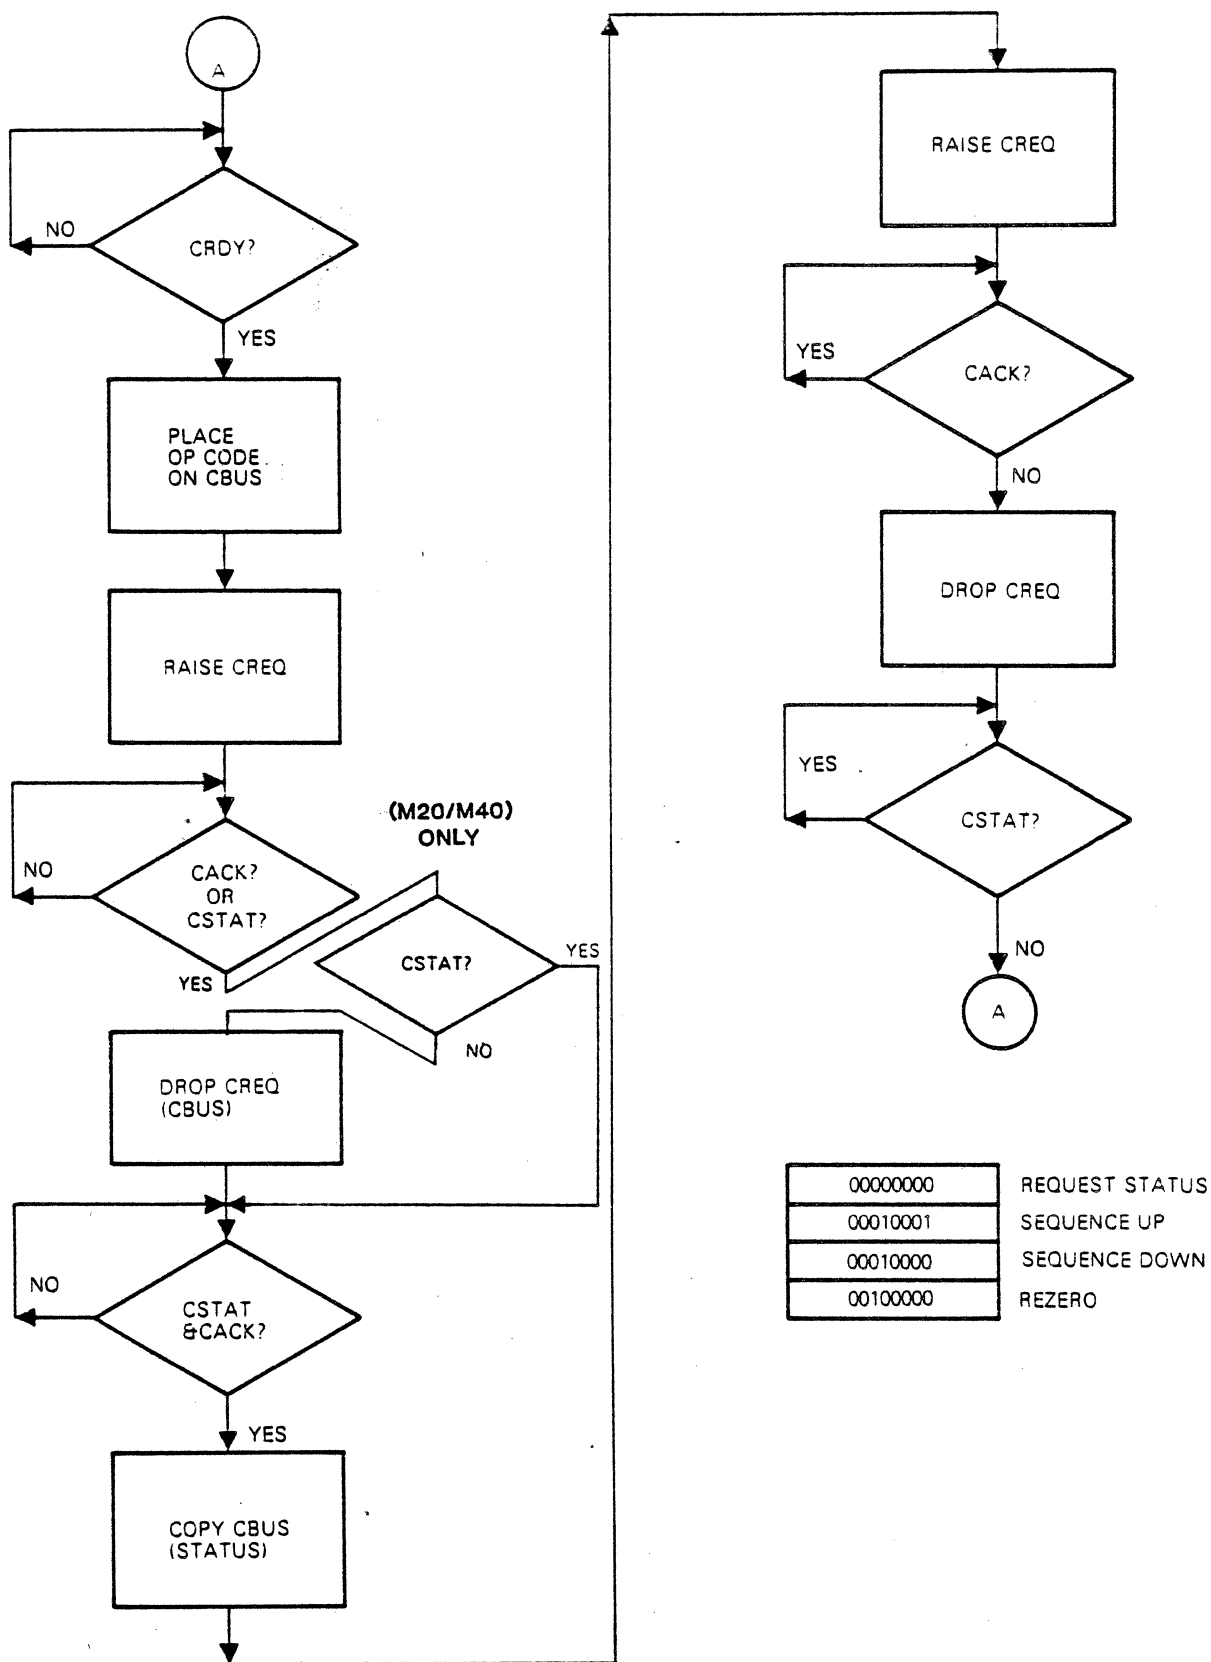

Figure 3-1. One Byte Commands (Except Head Advance) Flow Chart (Suggested Procedure for User)
3.3 ONE BYTE COMMANDS (Figures 3-1 thru 3-4)